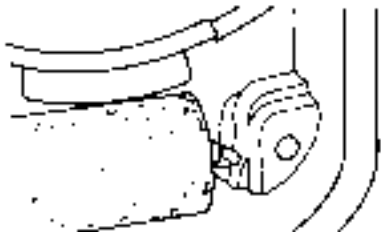

Figure 3.3.8
1. Inspect the condenser for signs of corrosion. This condition is cause for component rejection. (See Figure 3.3.8).